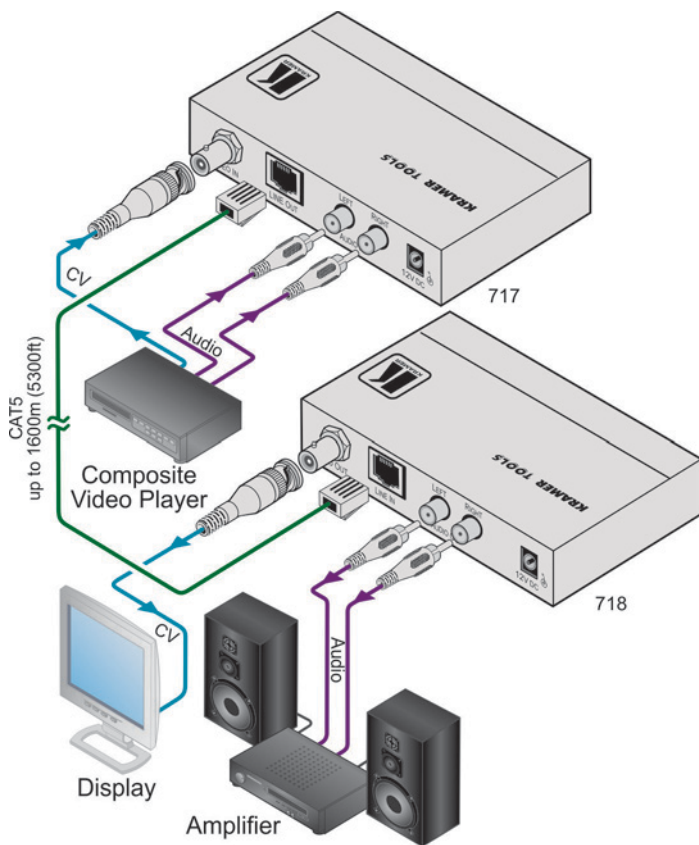

Figure 4: Connecting the Video-Audio Line Transmitter/Receiver System
**To connect the 717 and the 718 as illustrated in the example in Figure 4:**